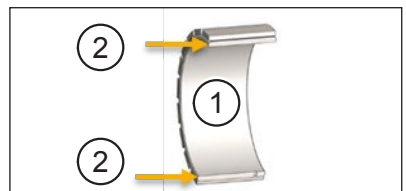

Fig. 13: Pressure points on the inner ring
- Only press on the inner ring (item 1 in Fig. 13) of the rotor when you push it onto the shaft. The pressure points (item 2 in Fig. 13) should be opposite one another.